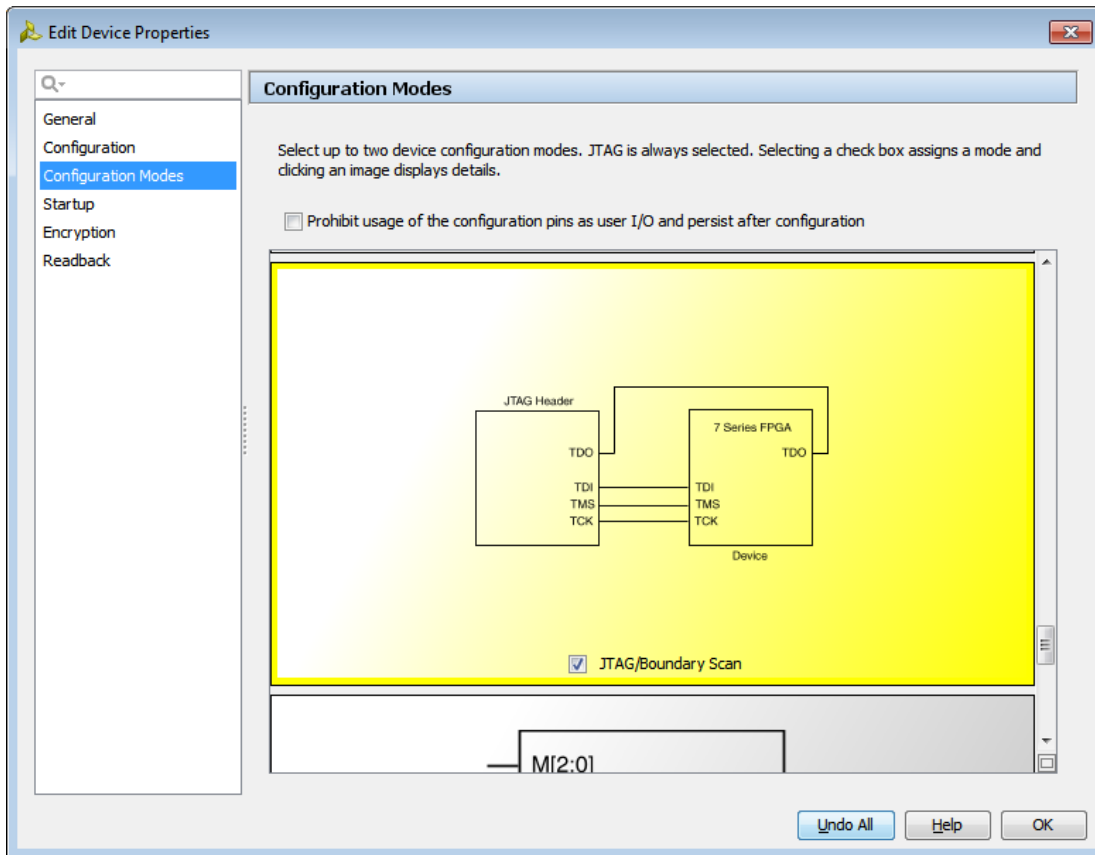

Figure 22: Edit Device Properties – Configuration Modes
2. In the **Edit Device Properties > Configuration Modes** dialog box, seen in Figure 22, select one or two of the **modes** to view the descriptions, schematics, and related data sheets.